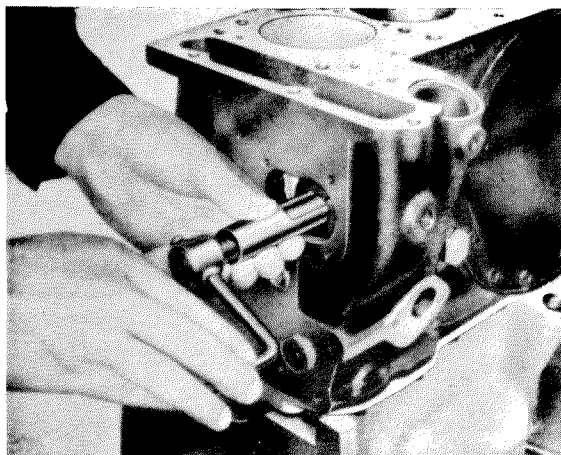

Fig. 01—4/26
3. Unscrew the retaining washer for the front bearing bushing of the idling gear shaft (see Fig. 01—4/30). Use Tool 187 589 07 61 to pull out the gear shaft together with the front bushing (Fig. 01—4/27).